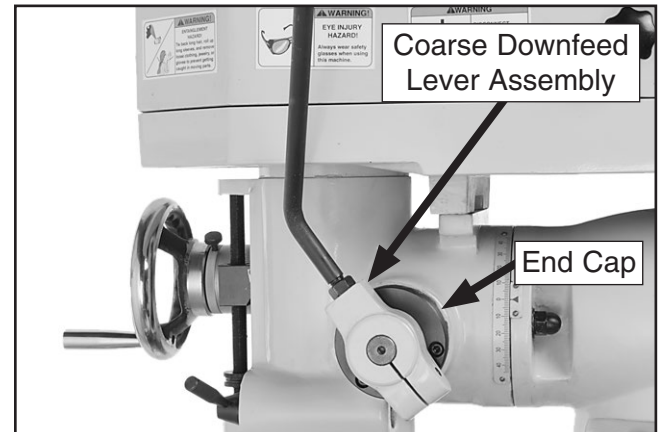

Figure 47. Coarse downfeed lever assembly and end cap.
3. Loosen the set screw securing the coarse downfeed lever assembly to the quill gear shaft, then remove the assembly from the shaft (see **Figure 47**).